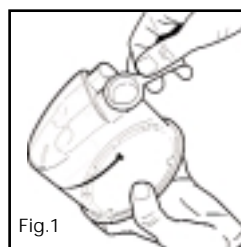

Fig.1
4. Remove the blue caps and discard them (Fig.1).